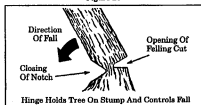

Figure 21
- Leave enough uncut wood between the felling cut and the notch to form a hinge. Figure 21.